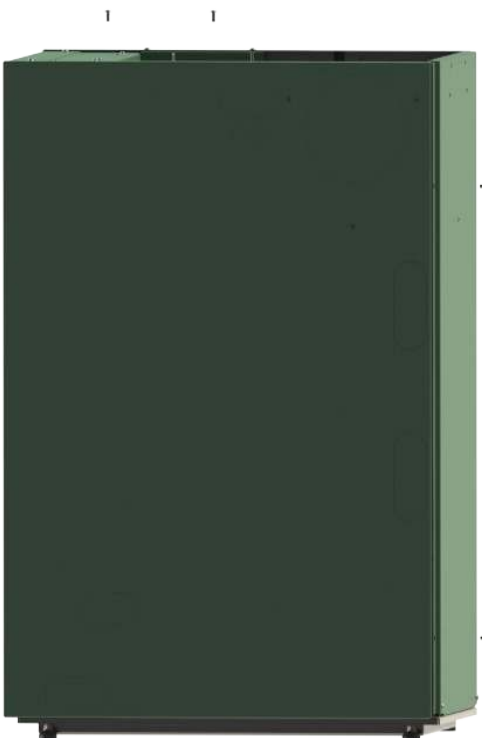

Fig.8
2. Loosen the rear/side panel securing bolts (**see fig 8**)